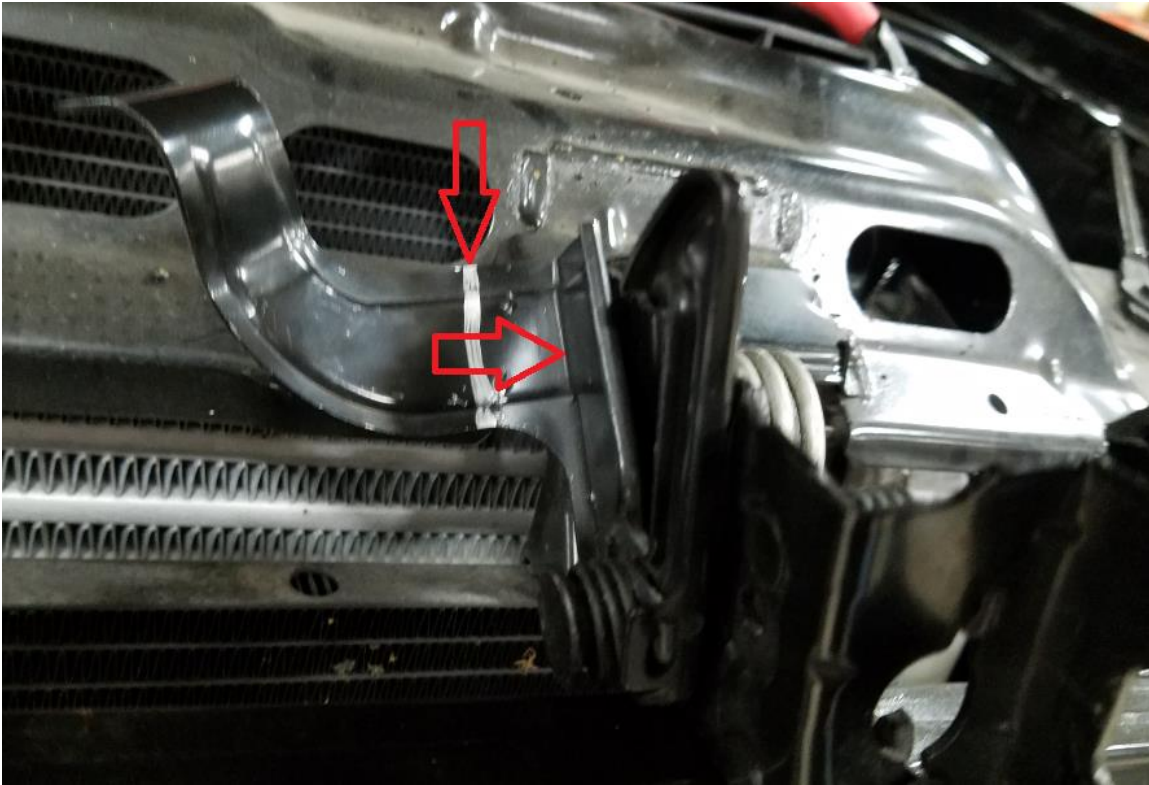

Figure 13
M. Reattach modified metal frame on truck and reinstall headlights. Reattach the hood release and adjust so that it works properly. The hood release will need to be cut to be able to fit the Grumper on the truck (Figure 13). Cut the hood release about 1" from the surface the horizontal arrow is pointing at. The hood release can be accessed thru the *Grumper center mesh* to raise the hood.